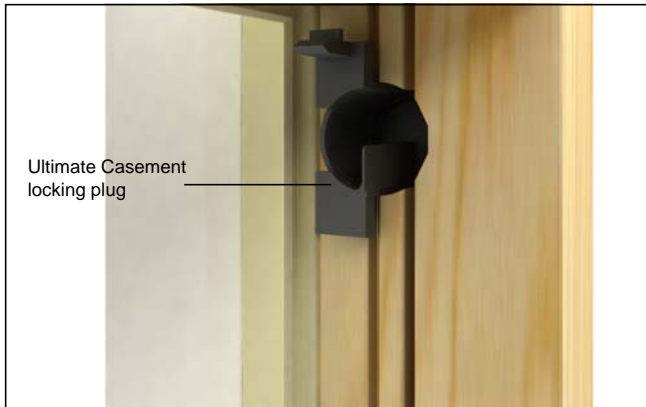
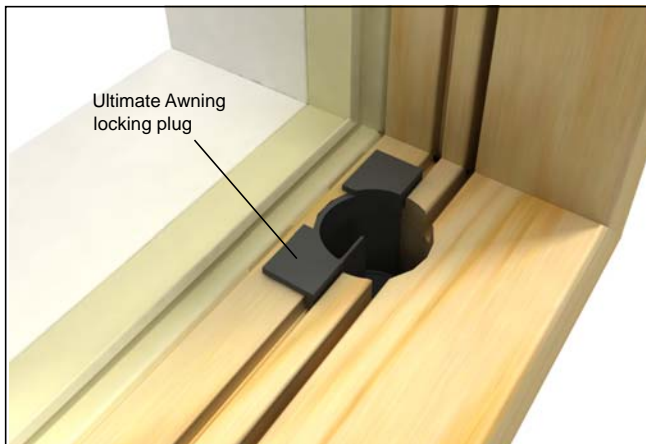

Figure 18 Ultimate Casement
Figure 19 Ultimate Awning
- Insert the locking plugs in both holes. See figure 18 for Casement and figure 19 for Awning.